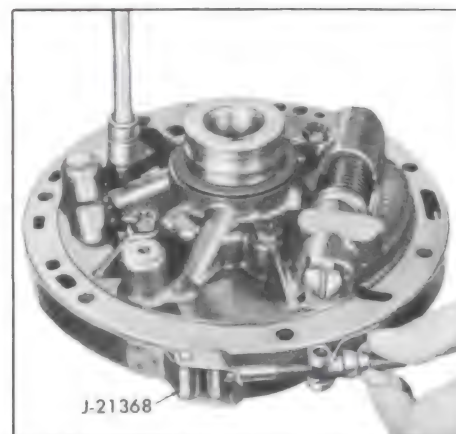

Figure 5-598
11. Place pump aligning strap, J-21368, over pump body and cover, and tighten tool. See Figure 5-598.